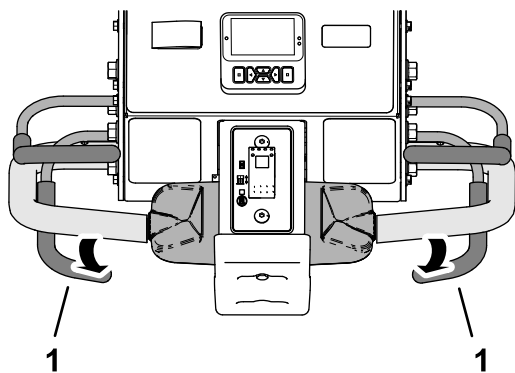

Figure 88
- Release the aerate bail (Figure 88).